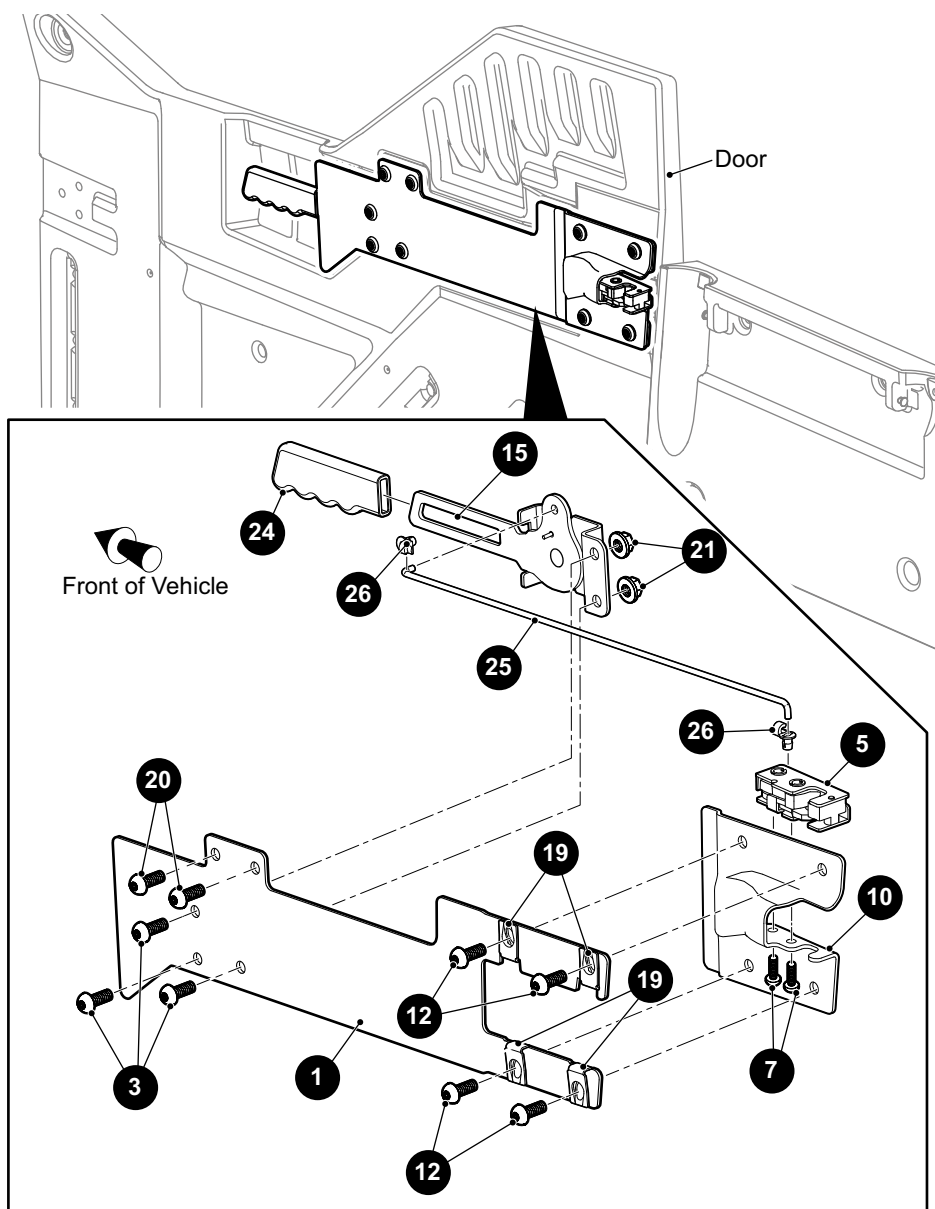

Fig. 9 Door Handle and Latch Assembly
1. Remove the screws (20) that secure the cover plate (1) to the door (See Fig. 9).
2. Remove the screws (12) that secure the cover plate (1) to the latch mount bracket (10) and to the door.